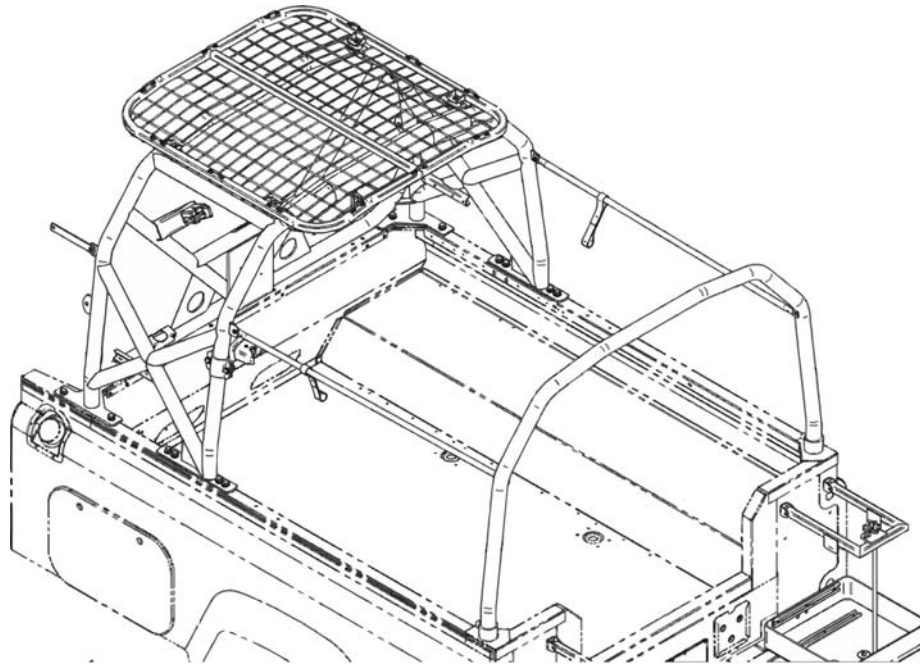

Figure 24 Rollover Protection Bars
60. **Roll Bars.** The removable roll bars (Figure 24) are provided and, when installed in their respective mountings, help to protect the occupants of the vehicle in the event of vehicle rollover. The roll bars are also utilised as bows for the canvas canopy which, when installed, protects both the occupants and cargo from the elements. The camouflage stowage frame is also secured to the top of the roll bars. Bolts retain the roll bars in their mountings and facilitate the removal of the roll bars when necessary. Hoodsticks are mounted between the rear and middle roll bars and between the front roll bar and door pillars to provide support and to keep the canopy tight.